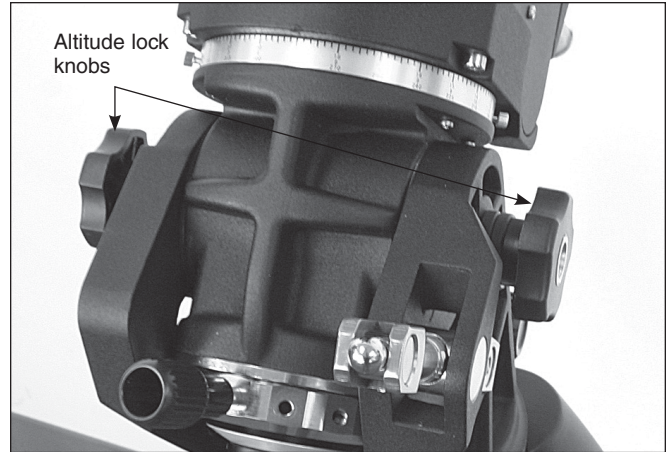

Figure 12. The dual altitude lock knobs.
1. Loosen the two altitude lock knobs located on the sides of the mount (**Figure 12**).
1. Loosen the two altitude lock knobs (**Figure 12**).